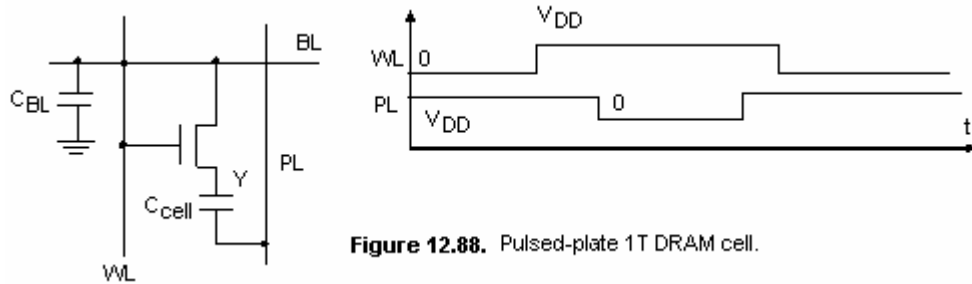

Figure 12.88. Pulsed-plate 1T DRAM cell.
- [C, None, 12.2.3] Figure 12.88 shows a variant of the 1T-DRAM cell.